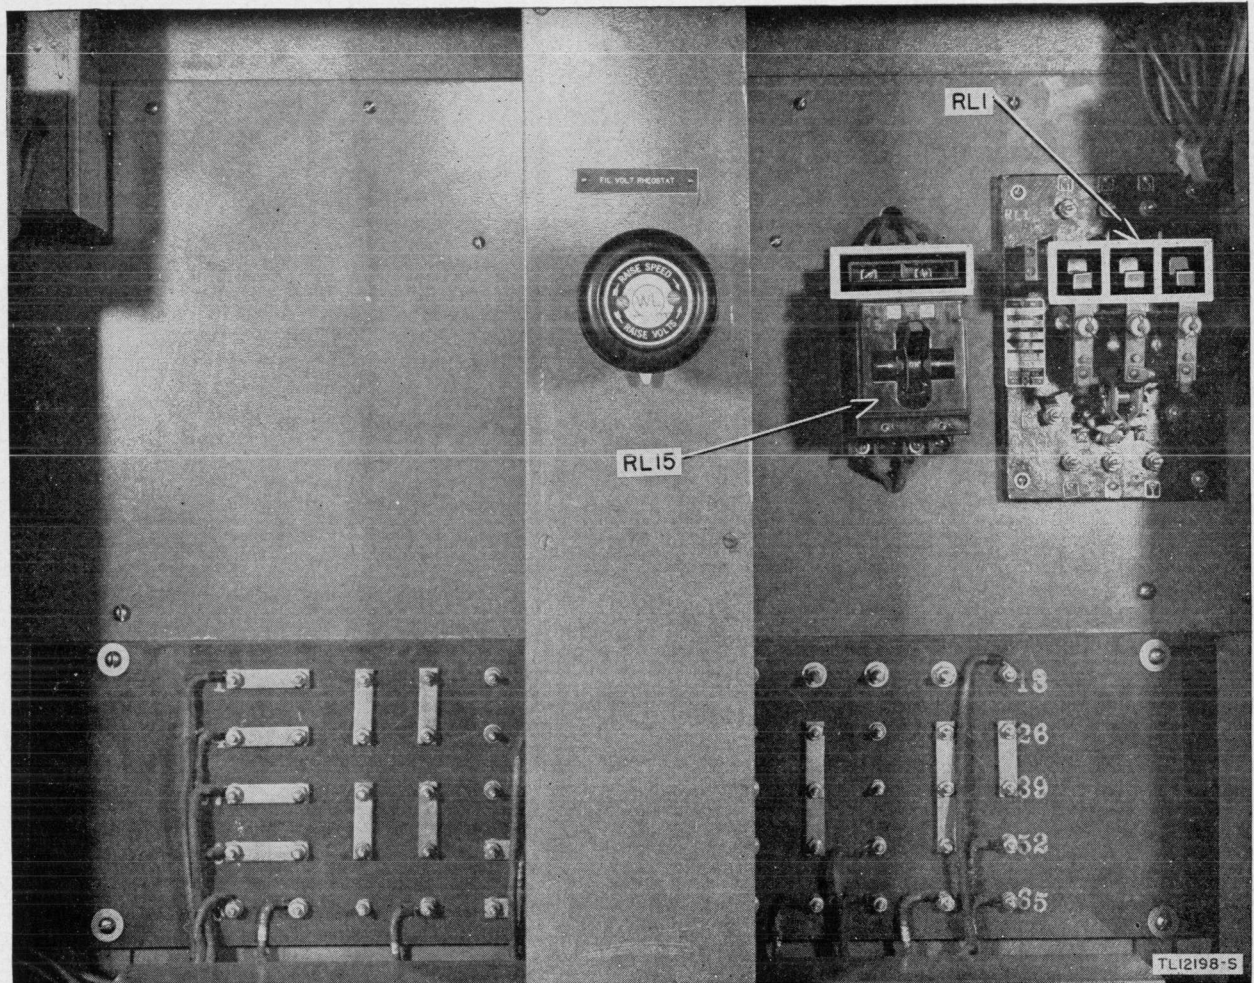

Figure 39. Terminal board No. 3.
- d. MASKING. (1) Mask the opening at the top of circuit breaker RL15. (See fig. 39.)
- (2) Mask the contacts of contactor RL1. (See fig. 39.)